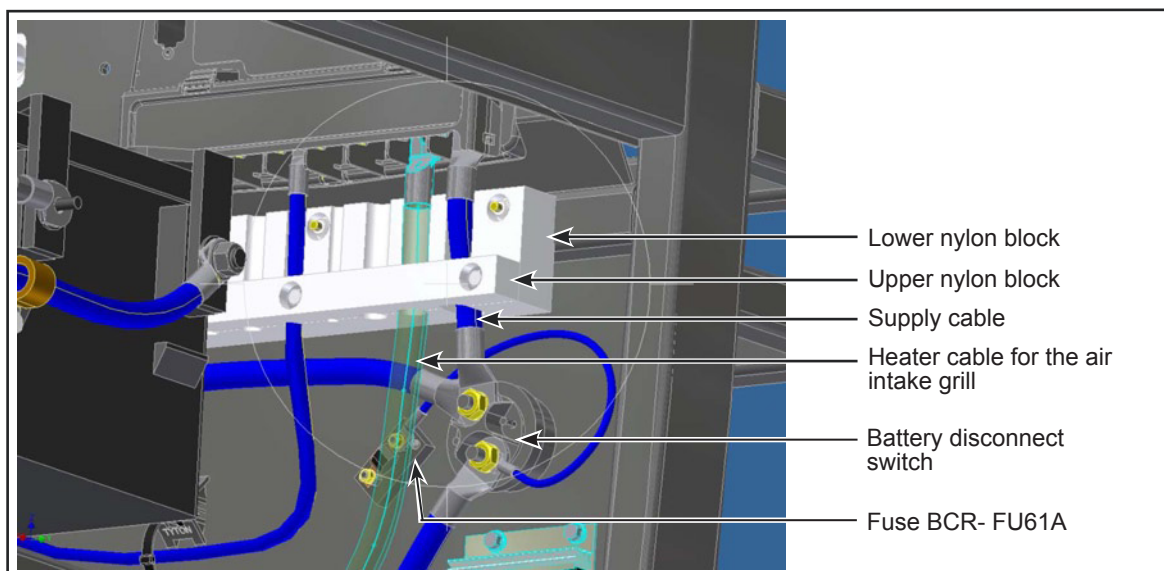

Figure 2 - Existing Connections for the Power Distribution Box
- 1.4. Remove and discard the upper and lower nylon blocks, located on the battery compartment bulkhead, to the right of the batteries (see Figure 2). Retain the hardware.
- 1.5. Remove and discard the supply cable connected to the first terminal of the distribution box and the disconnect switch. See Figure 2.
- 1.6. Remove and discard the battery disconnect switch. See Figure 2.
- 1.20. Remove the fuse assembly BCR-FU61A. See Figure 2.